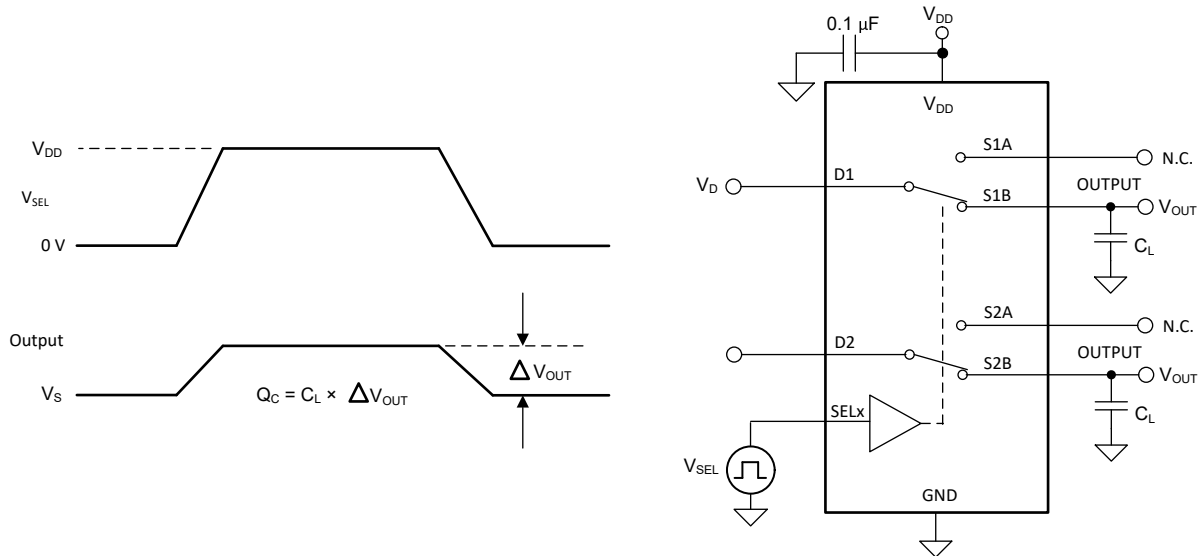

Figure 6-11. Charge-Injection Measurement Setup
Any mismatch in capacitance results in a charge injected into the drain or source during the falling or rising edge of the gate signal. The amount of charge injected into the source or drain of the device is known as charge injection, and is denoted by the symbol Q_C . Figure 6-11 shows the setup used to measure charge injection from Drain (D) to Source (Sx).